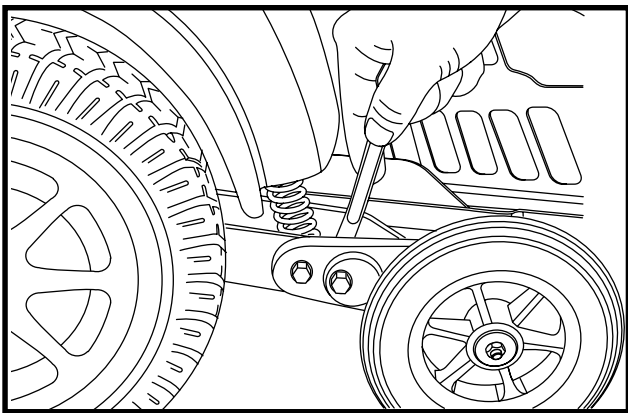

Figure 18. Anti-Tip Bracket (Inner Locknut)
1. Place a wrench on the inner locknut of the anti-tip bracket located right in front the shock strut. See figure 18.